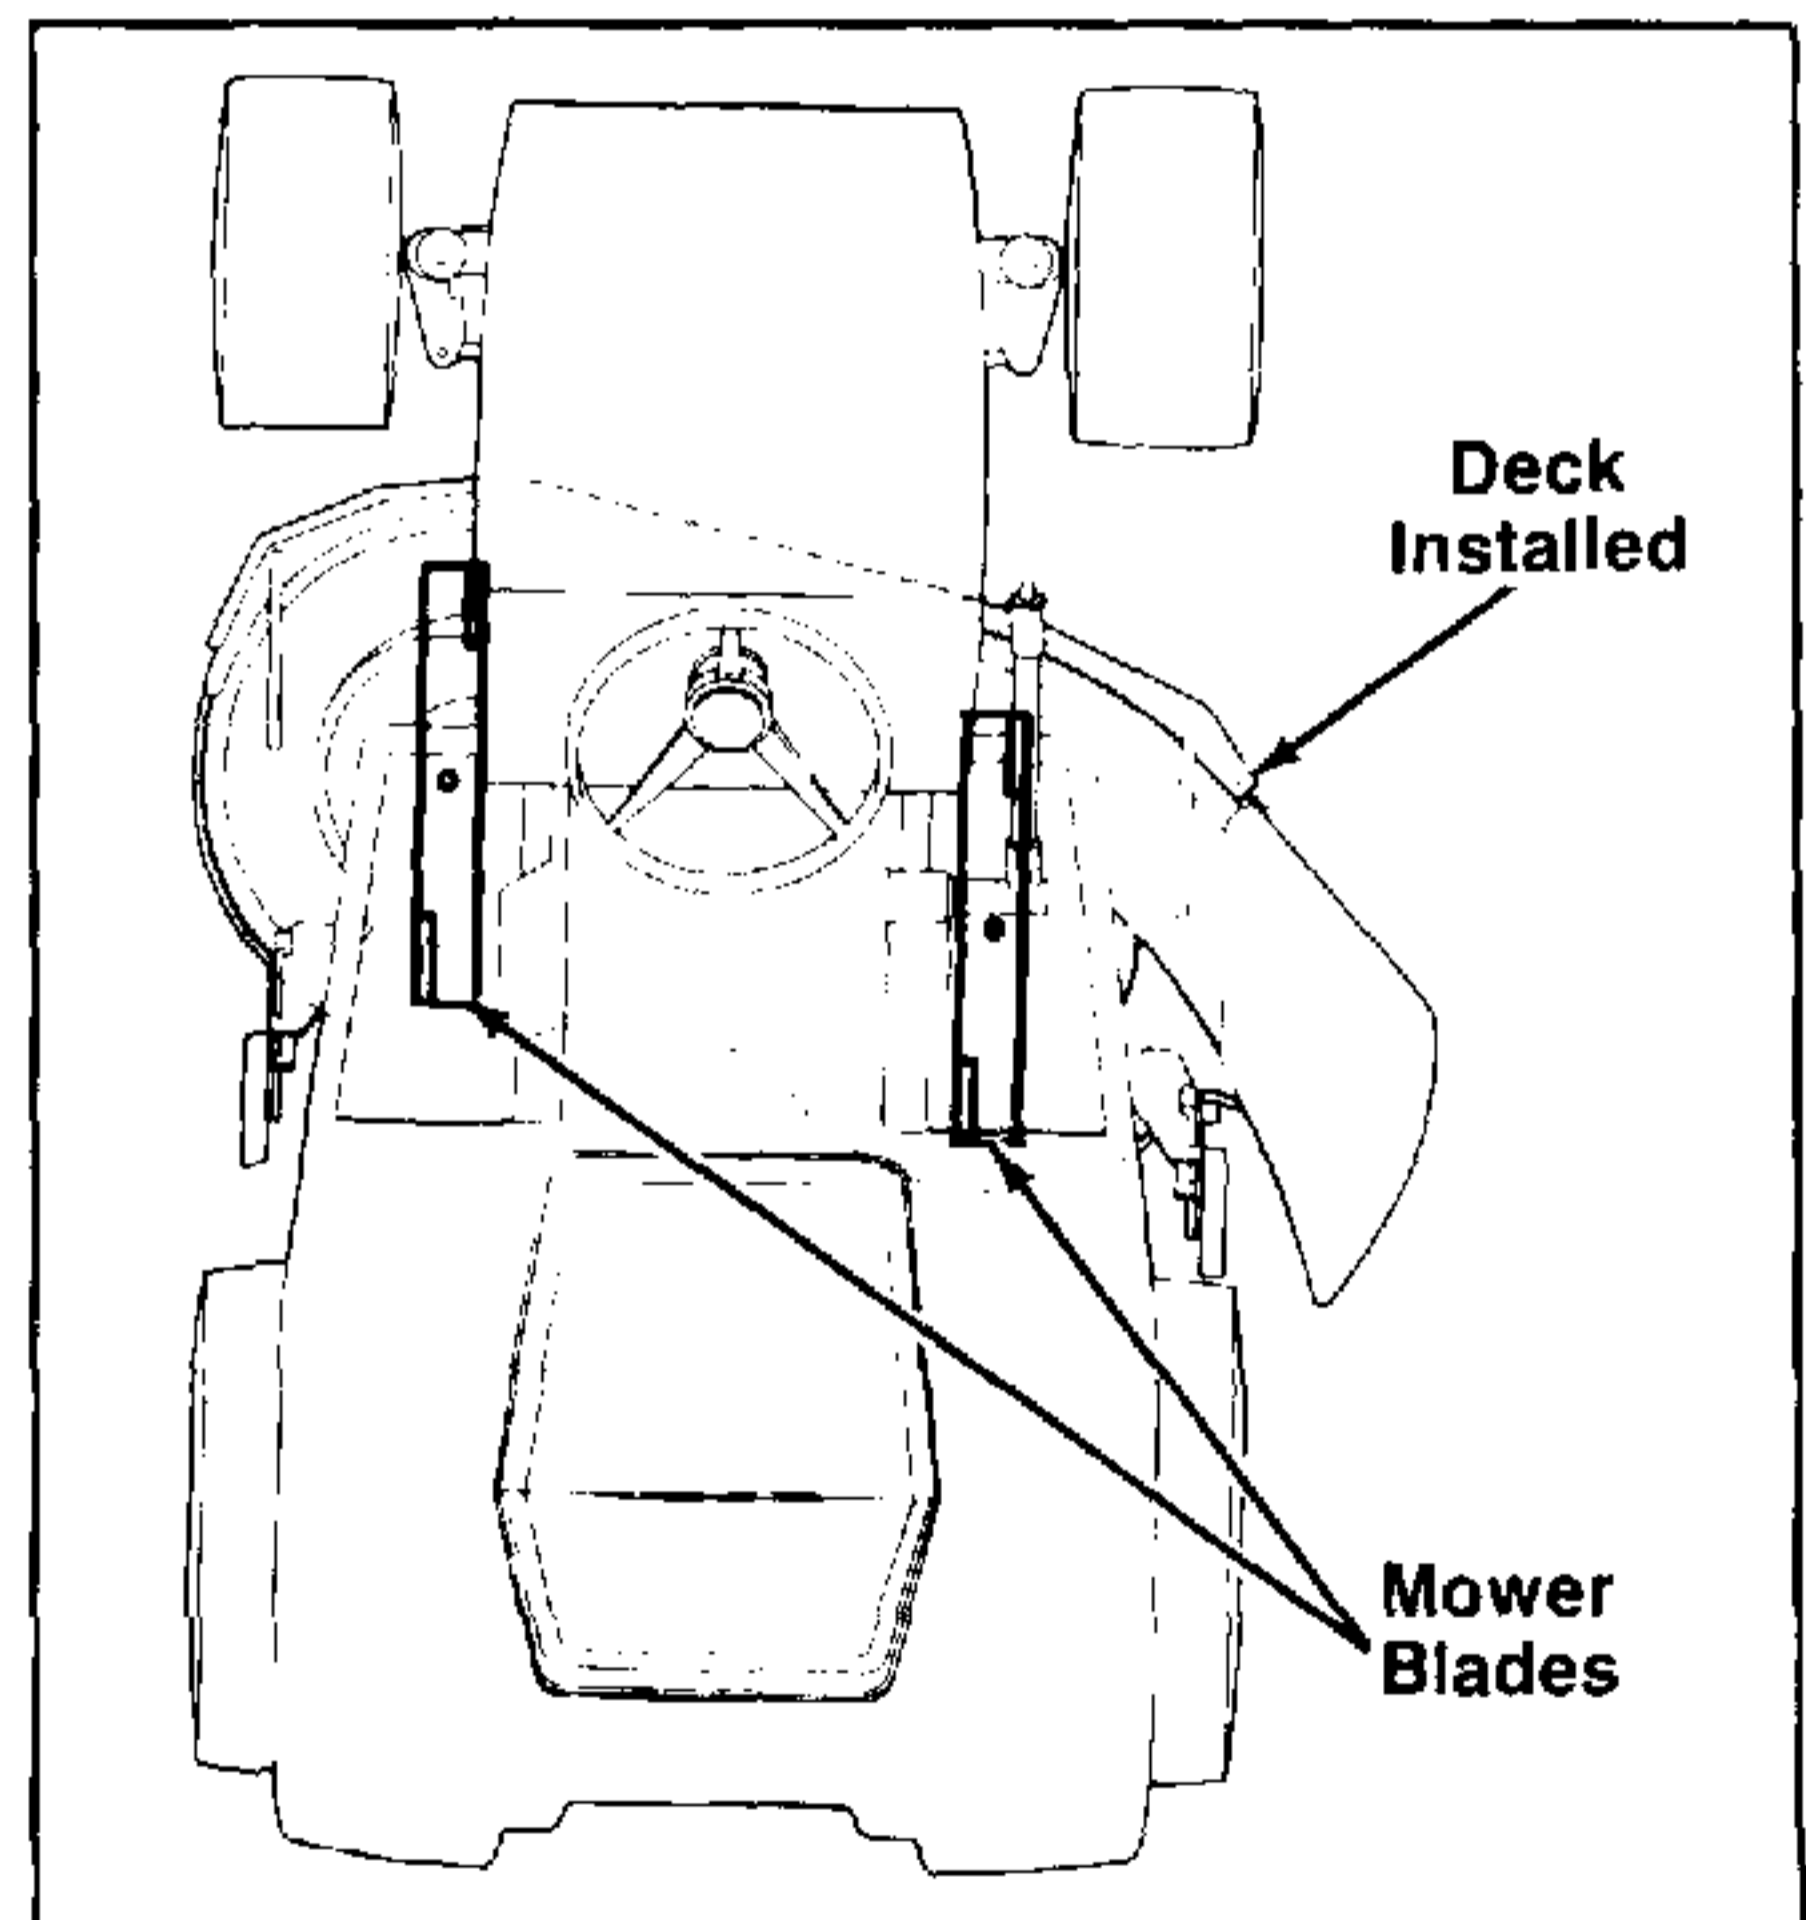

FIGURE 14.
4. Position the mower blades so that the ends of each blade face the front and rear of the tractor. Refer to figure 14.